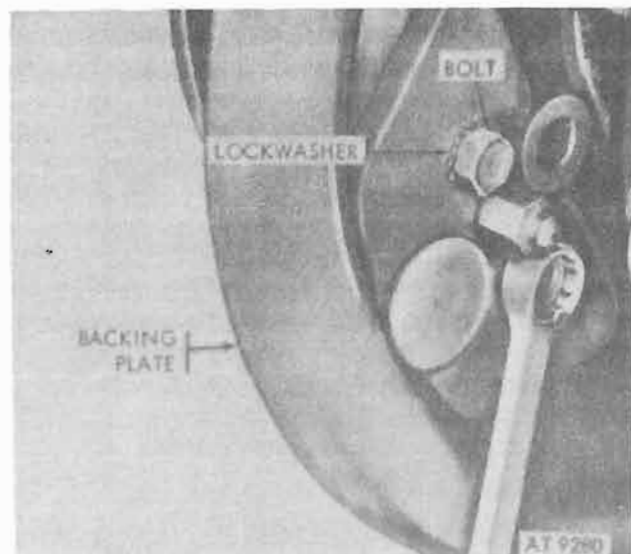

Figure 10-40. Brake wheel cylinder retaining bolts and lockwashers.
l. Remove two bolts and lockwashers from brake backing plate securing brake wheel cylinder to plate (fig. 10-40).